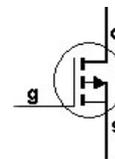

Fig.4.7.1
4. What type of device is illustrated in Fig.4.7.1?